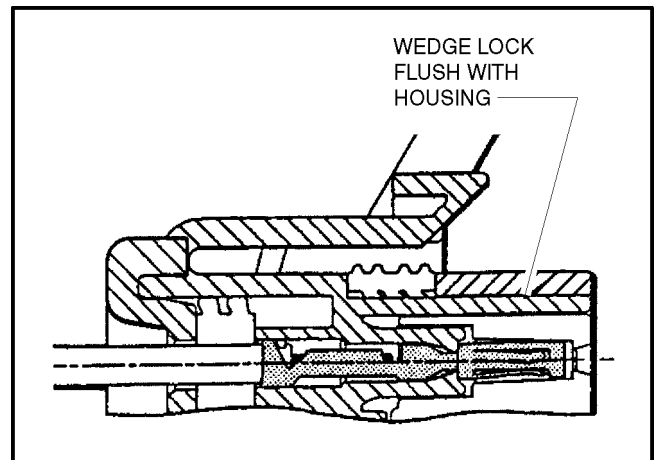

Figure 7-9. Connector Assembly Figure 4
4. Slide the wedge lock into the housing until it is flush with the housing (See Figure 7-9).